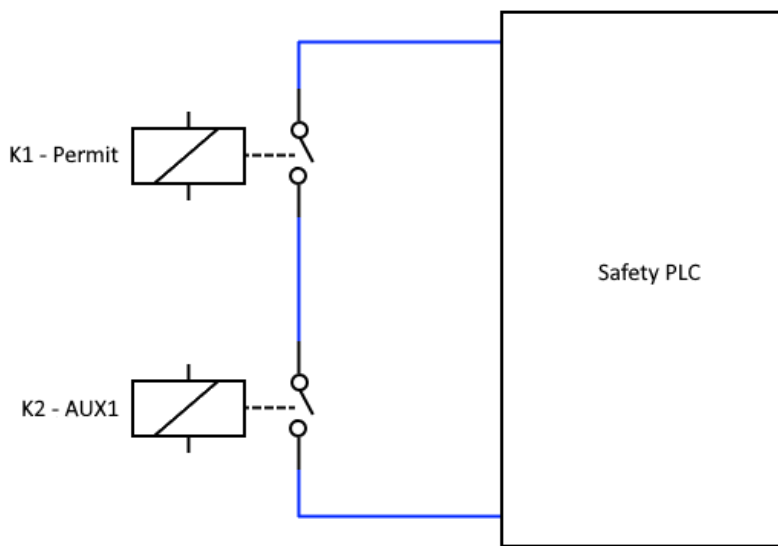
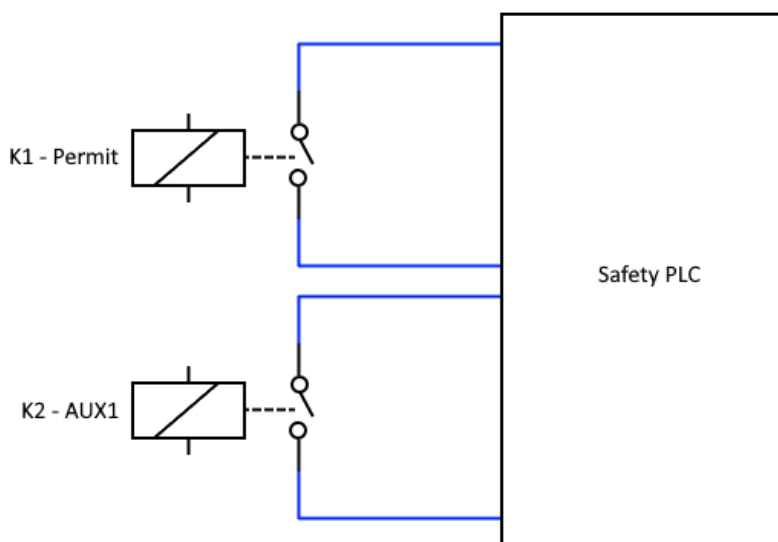

Figure 3.1 Relays K1 and K2 in series
Figure 3.2 Relays K1 and K2 wired individually, required for SIL 2 systems recommended for SIL 1 systems
The RACK must be installed according to the H72611_X0 installation manual by qualified personnel. The permit relay (K1) and relay AUX1 (K2) must be wired in a 1oo2 fashion. For SIL 1 variants (refer to Table 1.1) it is allowed to wire K1 and K2 in series see Figure 3.1. However wiring both relays individually is recommended as in Figure 3.2. For SIL 2 variants K1 and K2 must be individually wired up to the safety PLC see Figure 3.2. The individual wiring of Figure 3.2 allows the safety PLC to see if either K1 or K2 is stuck in the closed or open position.
- Both the permit relay (K1) and the AUX1 relay (K2) must be wired up. For SIL 2 the wiring given in Figure 3.2 must be used. For SIL 1 the wiring of Figure 3.1 is allowed.